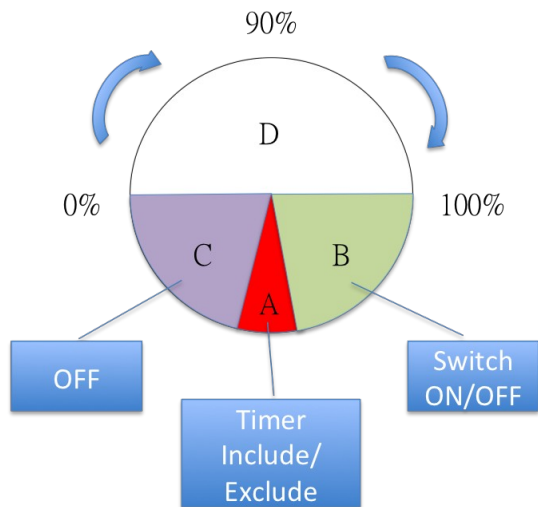
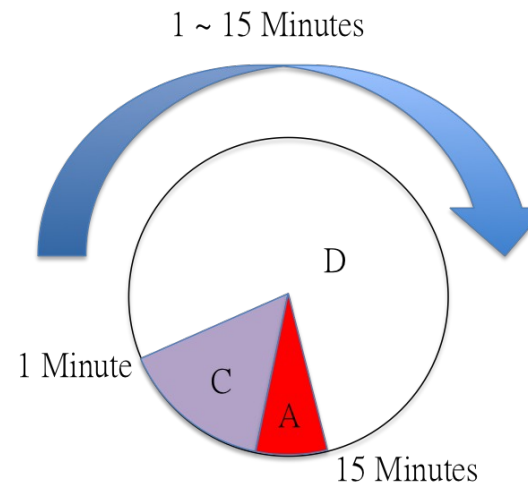

Figure 1
Figure 2
In the first time, add the device into the Z-Wave™ network. Make sure the primary controller is in the add mode. And then power on the device through micro USB. The device will auto start the NWI (Network Wide Inclusion). Red LED will flash every second and continue 30 seconds. And it should be included in 5 seconds. Red LED will light ON one second. Rotating to area A (shown in Fig. 1)
1. Include: Pointing the arrowhead to area A first (shown in Fig. 1). Pressing the button three times within 1.5 seconds. The red LED will light up for 1 second if succeed.
This device can control dimmers in group 2 using three ways: Dimmer, Timer, and Binary Switch. Point the arrowhead to area A (shown in Fig. 1 and Fig. 2) then hold the button, release after the red LED go out. One beep means entering Timer mode or two beeps means entering Dimmer mode. The device can switch to Binary Switch mode automatically when fitting horizontal.
This device is able to set dimmer level by rotating to different angle. When the status is Off, surround LED will not work except in area A (shown in Fig. 1). Rotate the device to area B, C, D (shown in Fig. 1) then touch the button can set the status to On. After a short beep, the surround LED will change gradually from blue to red and send different level to group 2 in area B when rotating. To turn Off the device in group 2, you can rotate PSR07 to area C or touch the button again.